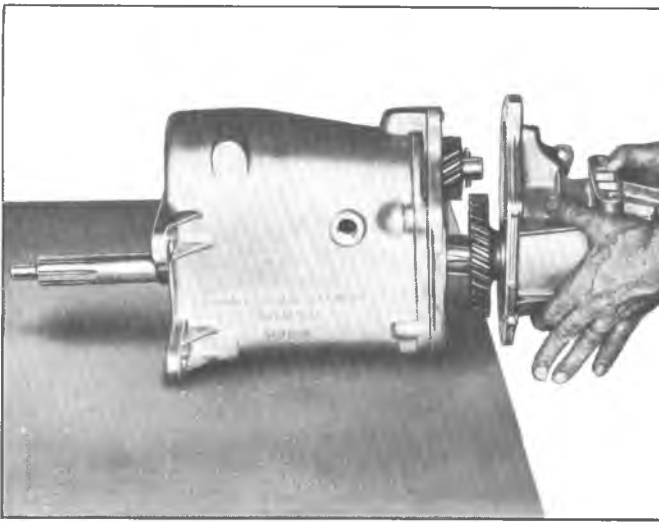

Fig. 19B—Installing Case Extension
18. Pull reverse shifter shaft to left side of extension and rotate shaft to bring reverse shift fork forward in extension (reverse detent position). Start the extension onto the transmission case (fig. 19B), while slowly pushing in on the shifter shaft to engage the shift fork with the reverse gear shift